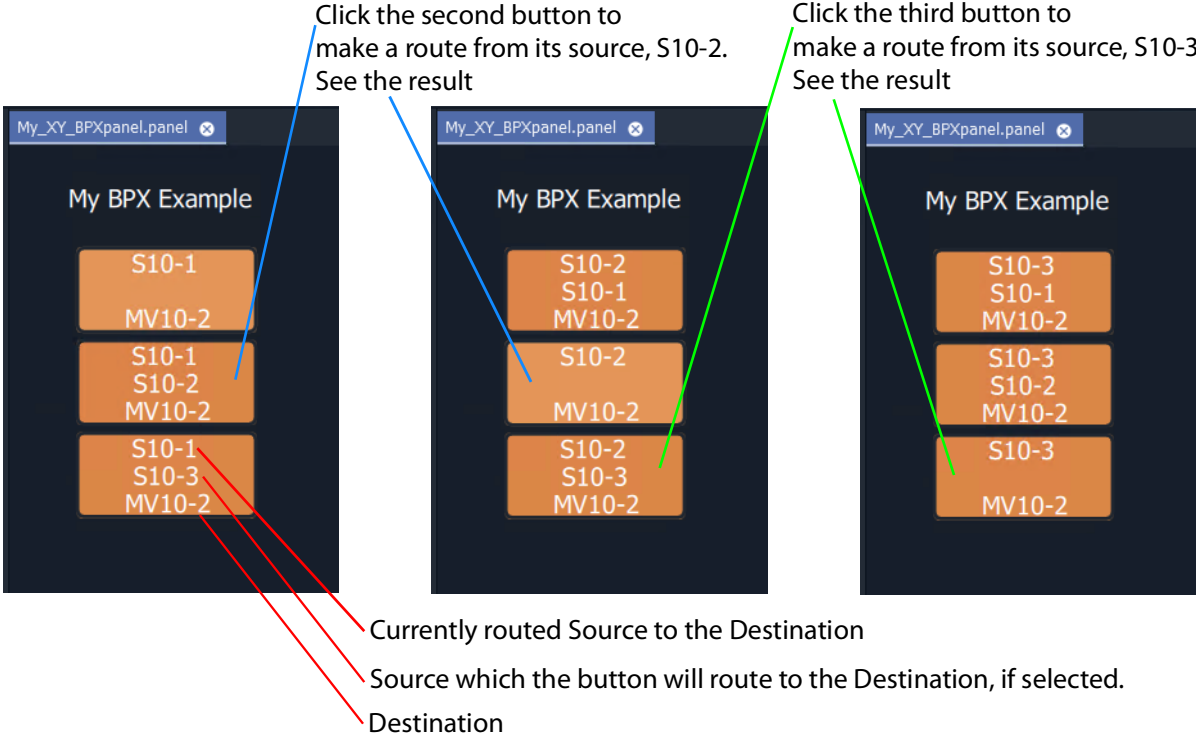

Fig. 6-54: BPX Panel Running
- 2 Operate the panel. See Figure 6-54.